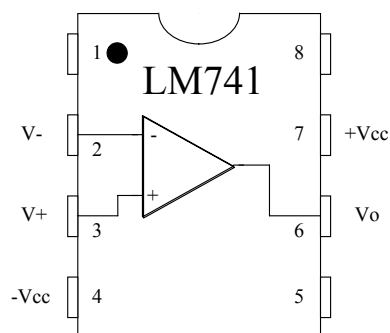

Figure 10. Pinout diagram of a 741 op-amp
- Figure 3. Use a DIP switch block for the switches S_2 - S_0 , and don't forget to supply $+V_{cc}$ (+15 Volts) and $-V_{cc}$ +-(15Volts) (not +5V and GND) to the 741 op-amp. The pinout diagram for the 741 op-amp is shown in Figure 10.